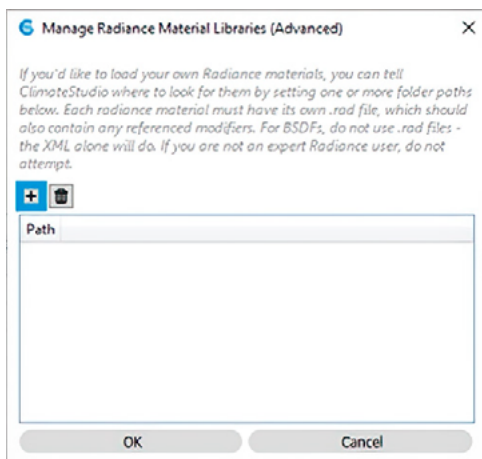

Figure 9 Click on "+", marked with blue and select the folder containing your custom materials library.
Step 6: Click the "+" sign and select the previously created folder containing the MicroShade® BSDFs or .cal file. See figure 9.